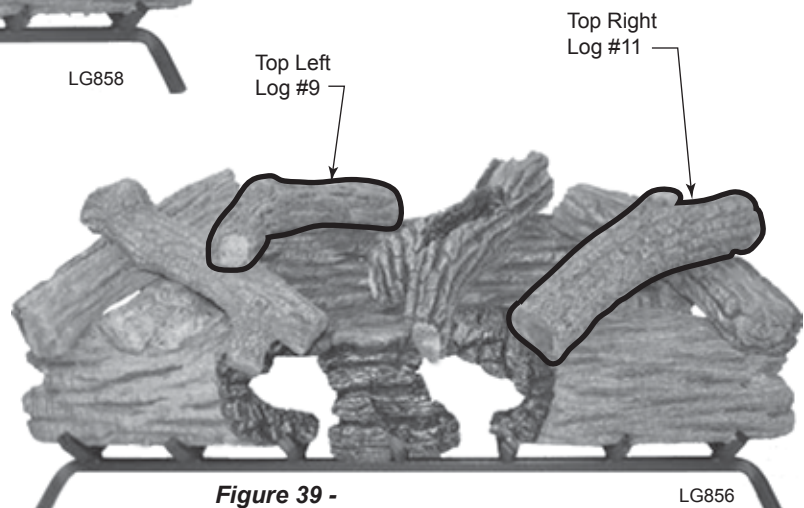

**Figure 39 -
10. Install top left log #9. *Figure 39*
11. Install top right log #11. *Figure 39*